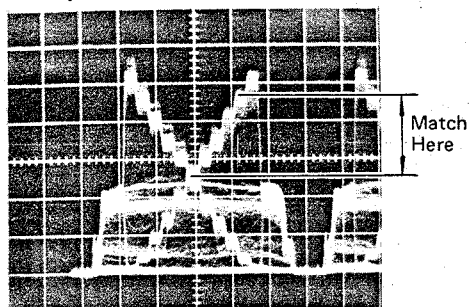

Fig. 6-4-42
- Adjust RED TRACKING-2 VR311 so that the R signal matches the  $Y_L$  signal in the 8th~9th step of gray scale waveform. (Fig.6-4-42)